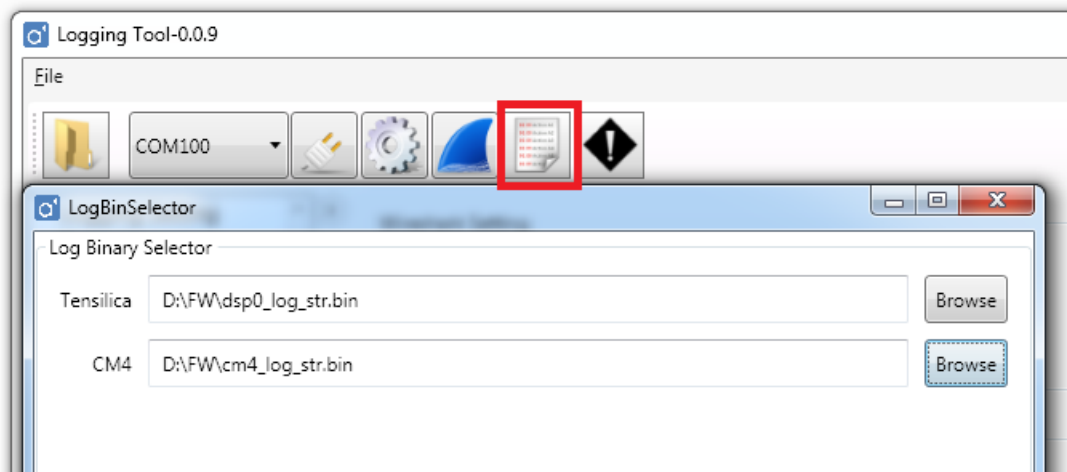

Figure 10. Select Log Binary
- 2) Select log binary file as shown in Figure 10.